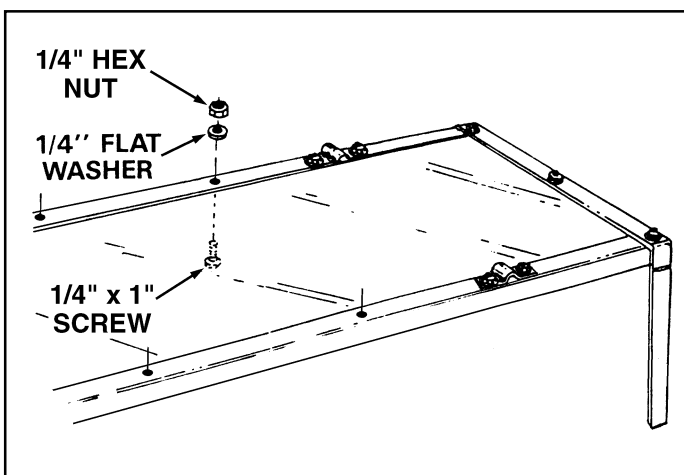

FIGURE 4
6. Secure both side angle assemblies to the bottom panel using four 1/4" x 1" screws, flat washers and hex nuts. Make only finger tight until all four screws are in place, then **tighten securely**. See figure 4.